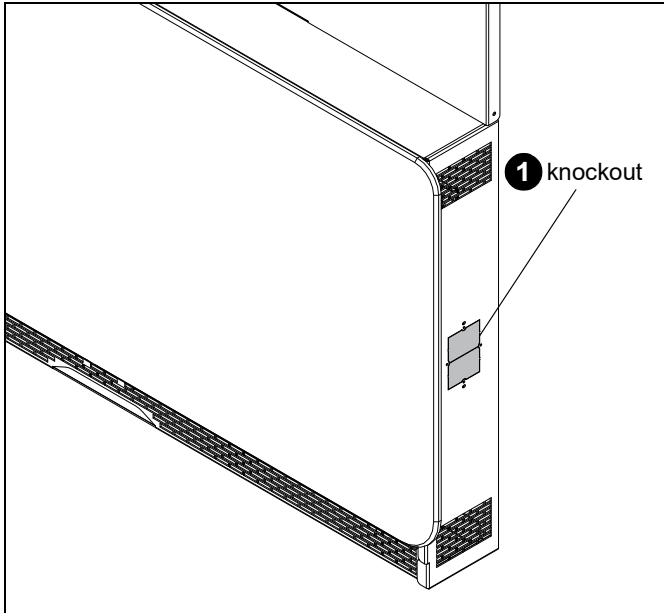

Figure 24
1. Remove knockouts on floor cabinet (A) as desired for cable management or to install control boxes. (See Figure 24)